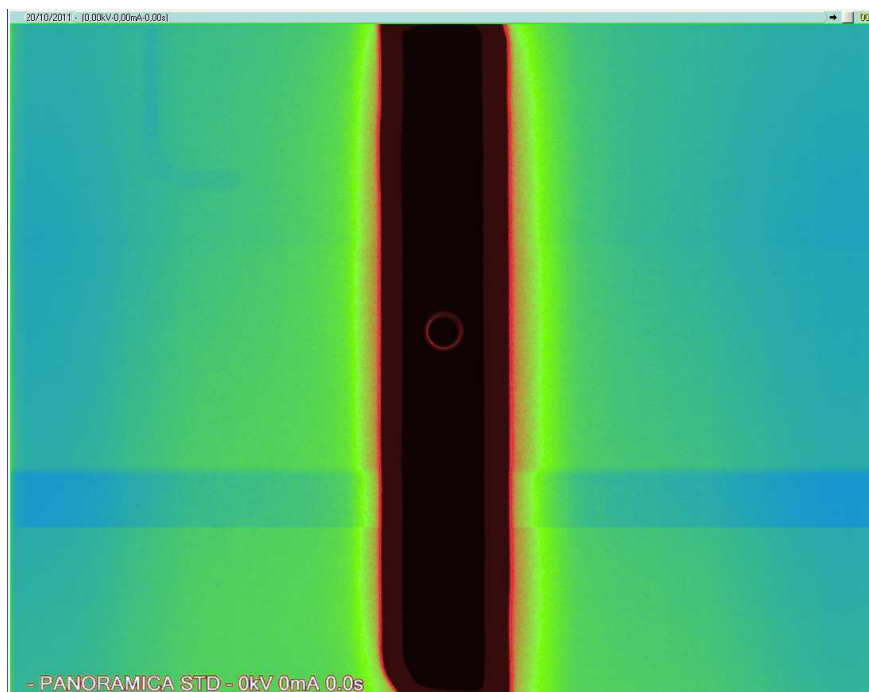

Figure 7-3
16. Check on the image if the Ear Centering Circles are concentric (small circle inside the big circle – i.e. as shown in Figure 7-3).